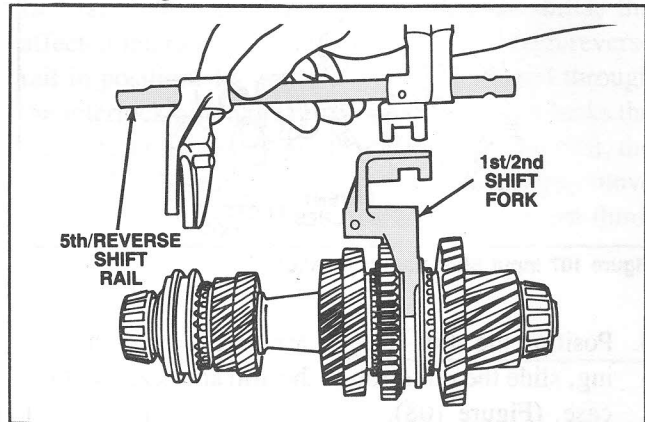

Figure 115 Shift Rail Installation
7. Install the fifth/reverse shift rail on the output gear train. (Figure 115).